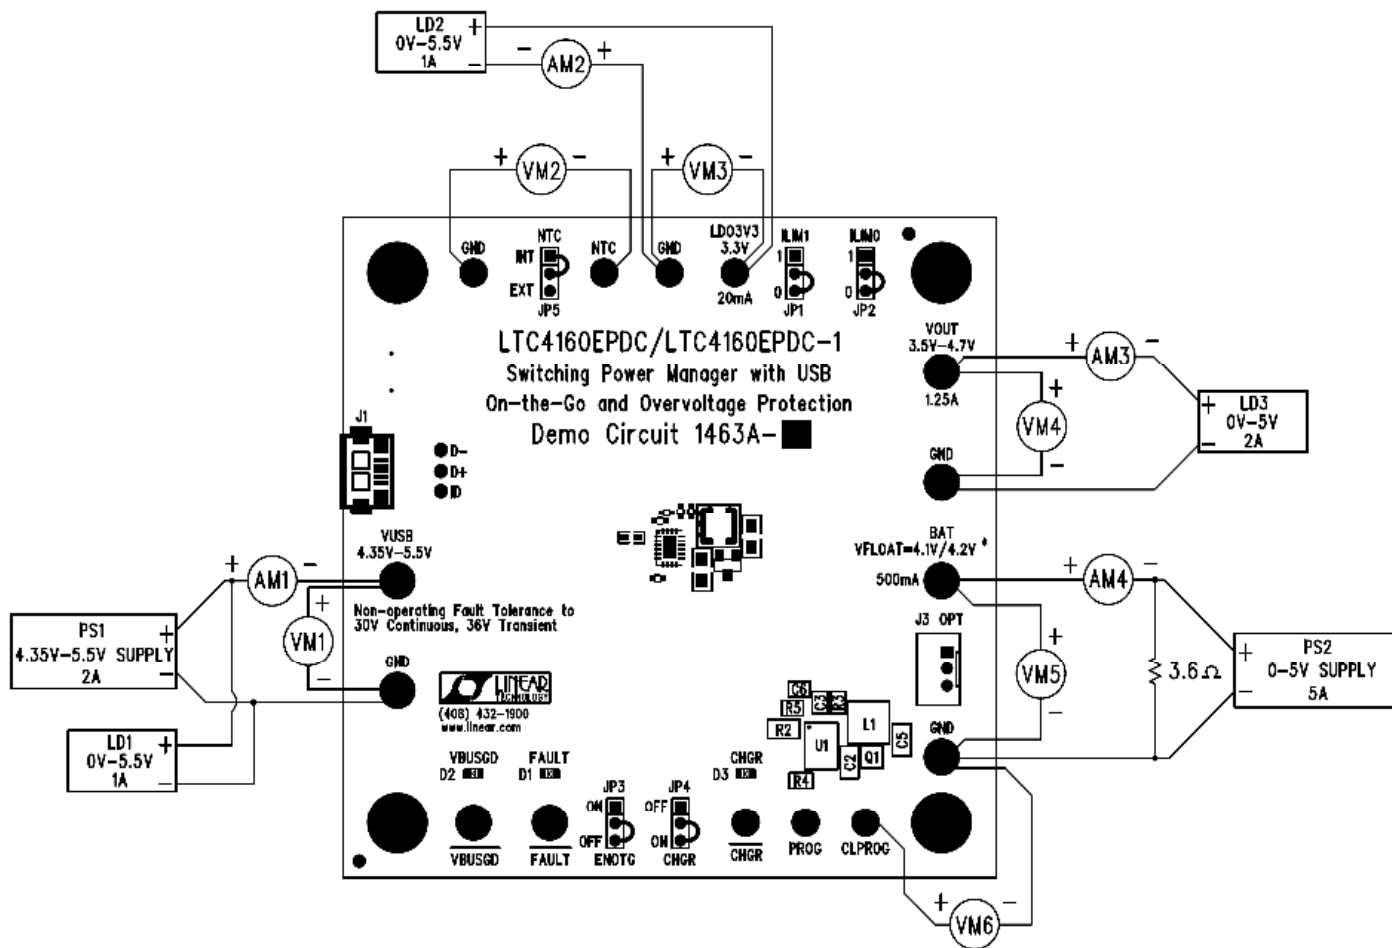

Figure 1. Proper Measurement Equipment Setup for DC1463A
Refer to Figure 1 for the proper measurement equipment setup and jumper settings and follow the procedure below.
1. Set all jumpers as shown in Figure 1 and LD1 = 0A, PS1 = 5V, LD2 = 0A, LD3 = 0A, PS2 = 3.6V. Observe V_{OUT} (VM4), LDO3V3 (VM3), and V(NTC) (VM2). The LTC4160 is operating as USB power manager. The current from PS1 will try to be the charging current * (3.6V/5V), or approximately 400mA, but will be limited by the input current limiter to ~ 100mA.